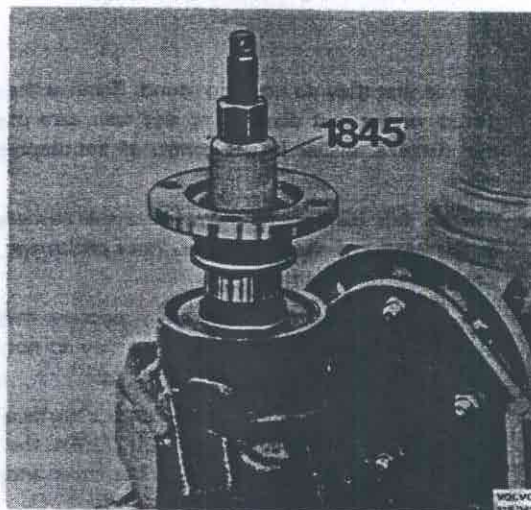

Fig. 46-18. Pressing on the flange
7. Pull on the flange with 1845, Fig. 46-18. Remove the tool and fit 2837. Fit the nut and tighten it to a torque of 280–300 Nm (28–30 kpm = 202–217 lbftf).